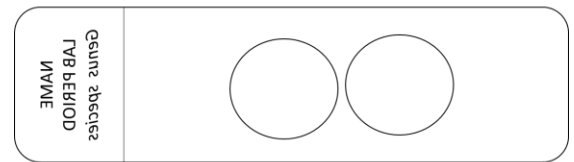

Figure 4.3: A properly labeled slide.
- ☐ Using a wax pencil, label your slides as shown in Figure 4.3. *Draw one circle on the bottom/underside of the slide.*, about 15mm apart from your staining zones. They must be close together, but not touching, in order to accurately stain and decolorize. Be sure to write in your lab notebook which zone, A or B, corresponds to the which smear. For example, Zone A: thin smear, Zone B: moderate smear.